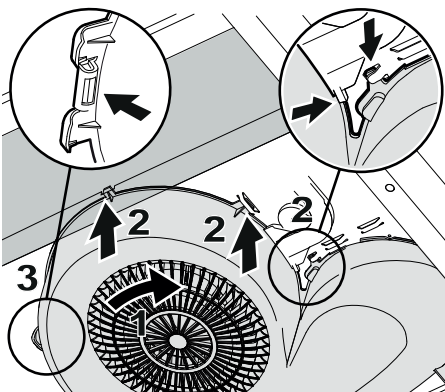

Fig. 8
Make sure all the snap retainers fit onto the cooker hood lugs. Twist the blower (1) into the lugs (2). Press the fan blower's snap retainer back into the lug (3).Fig. 8